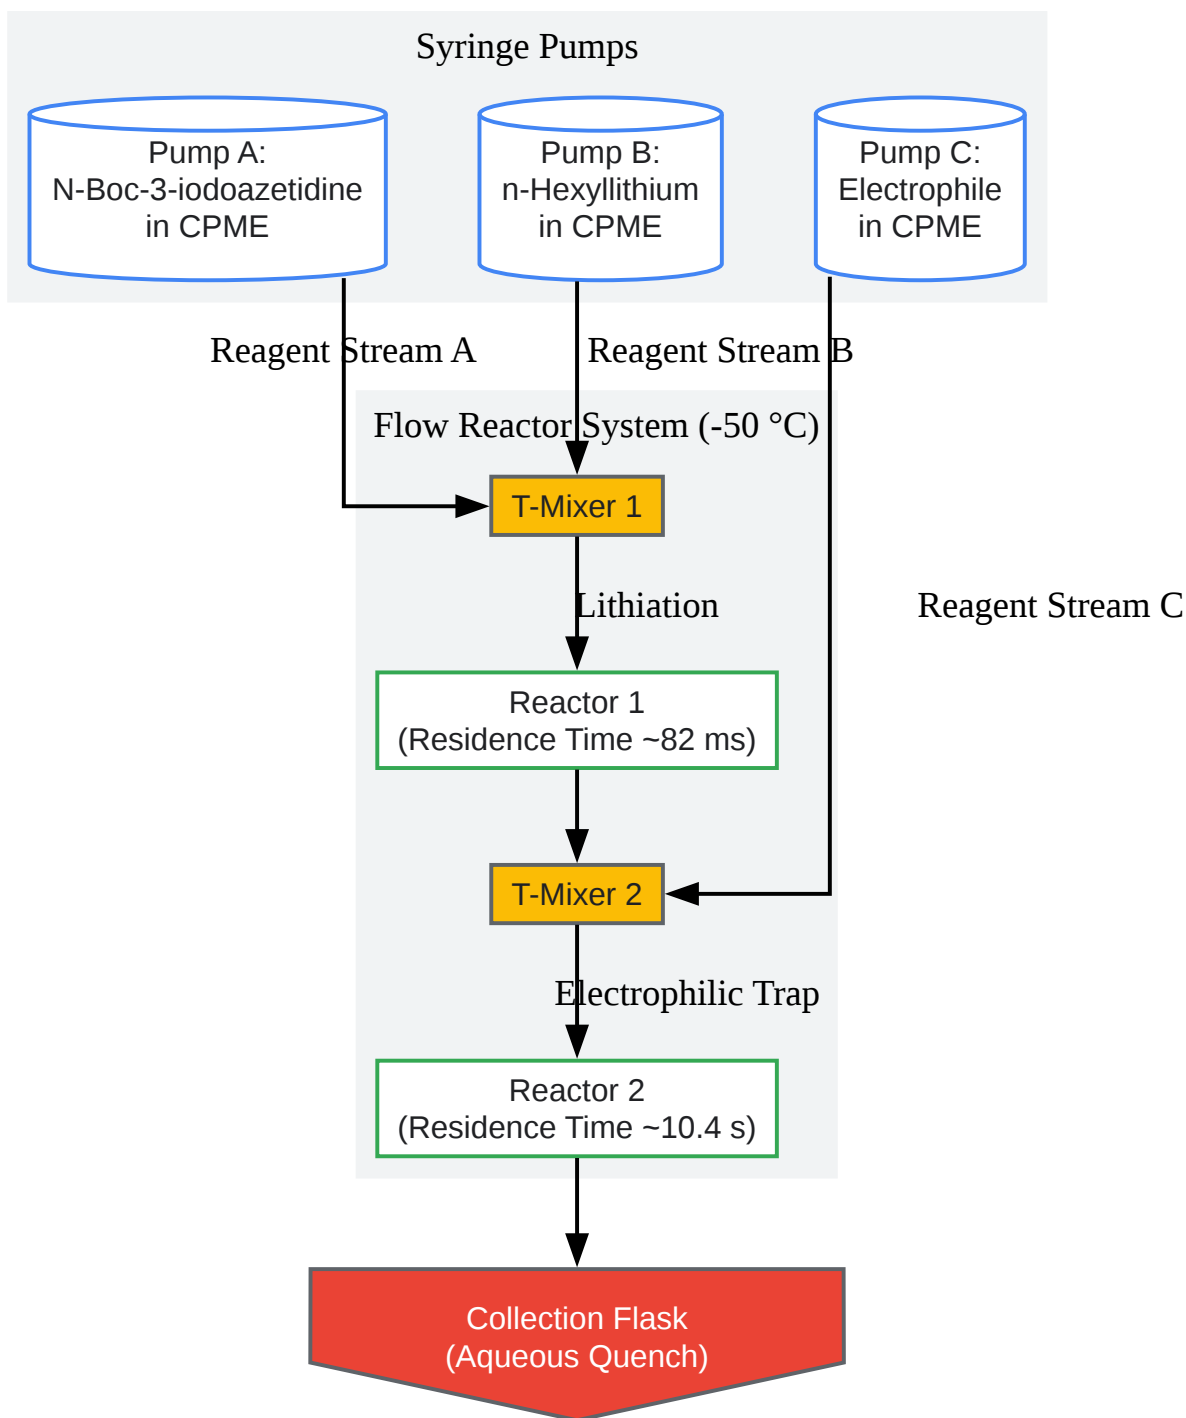

Figure 1. Continuous flow setup for azetidine functionalization.
Caption: Figure 1. Continuous flow setup for azetidine functionalization.
- Assemble the flow reactor system as depicted in Figure 1. The micromixers and reactor coils should be submerged in a cooling bath maintained at -50 °C.